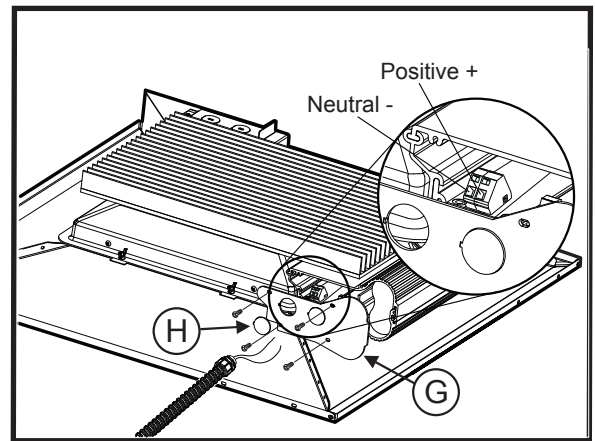

Figure 6
- To connect dimmer wires, remove side panel “G” by removing the (4) screws that hold it in place.
- Remove side panel knock-out “H” by inserting screw driver blade into knock-out notch and prying apart. Connect flexible conduit connector to the side panel as shown in Fig 6.
- Insert positive and neutral wires into the PCB connector (shown in detail view of Fig 6) in the correct polarity location as shown in Figure 6. **The polarity of the connection is important to proper dimmer function.** Using a small flat blade screwdriver, insert the blade into the top slots on the PCB connector and twist to lock the wires into place.
- When wires are locked, replace side panel and secure using the (4) screws provided.